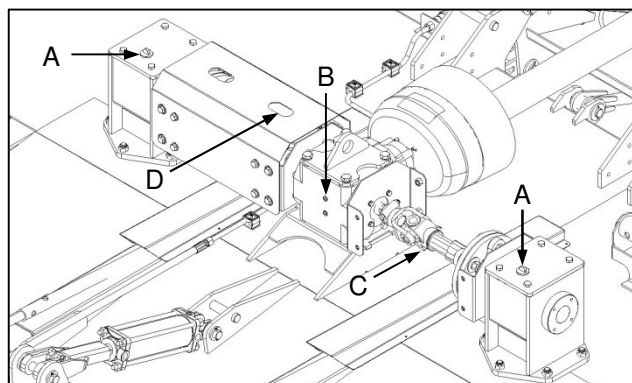

Fig. 11, (F60-300T)
- ✔ A dipstick (Fig. 11-A) is provided on each of the outboard gearboxes for this purpose. The oil level should fall within the area indicated on the dipstick.
- ✔ Elk van die buiteratkaste het 'n peilstok (Fig. 11-A) vir hierdie doel. Die olievlak moet binne die perke val wat op die peilstok aangedui word.
- ✔ The centre gearbox is equipped with oil filling ports. Remove the upper filler plug (Fig. 11-B) and add oil through the filling port so that the oil level coincides with the bottom edge of the hole.
- ✔ Intermediate shafts (Fig. 11-C, with cover removed for clarity) should have grease applied to the UV joint as well as the telescopic tubes. Note that both of these locations are accessible through apertures provided on the intermediate shaft cover (Fig. 11-D).
- ✔ Die sentrale ratkas is van olieulgate voorsien. Verwyder die boonste vullerprop (Fig. 11-B) en voeg olie by totdat die olievlak gelyk is met die onderste rand van die gat.
- ✔ Tussenasse (Fig. 11-C, getoon met omhulsel verwyder) se kruiskoppeling en teleskopiese buise moet gegries word. Let op dat albei deur openinge in die tussenas-omhulsel bereik kan word (Fig. 11-D).